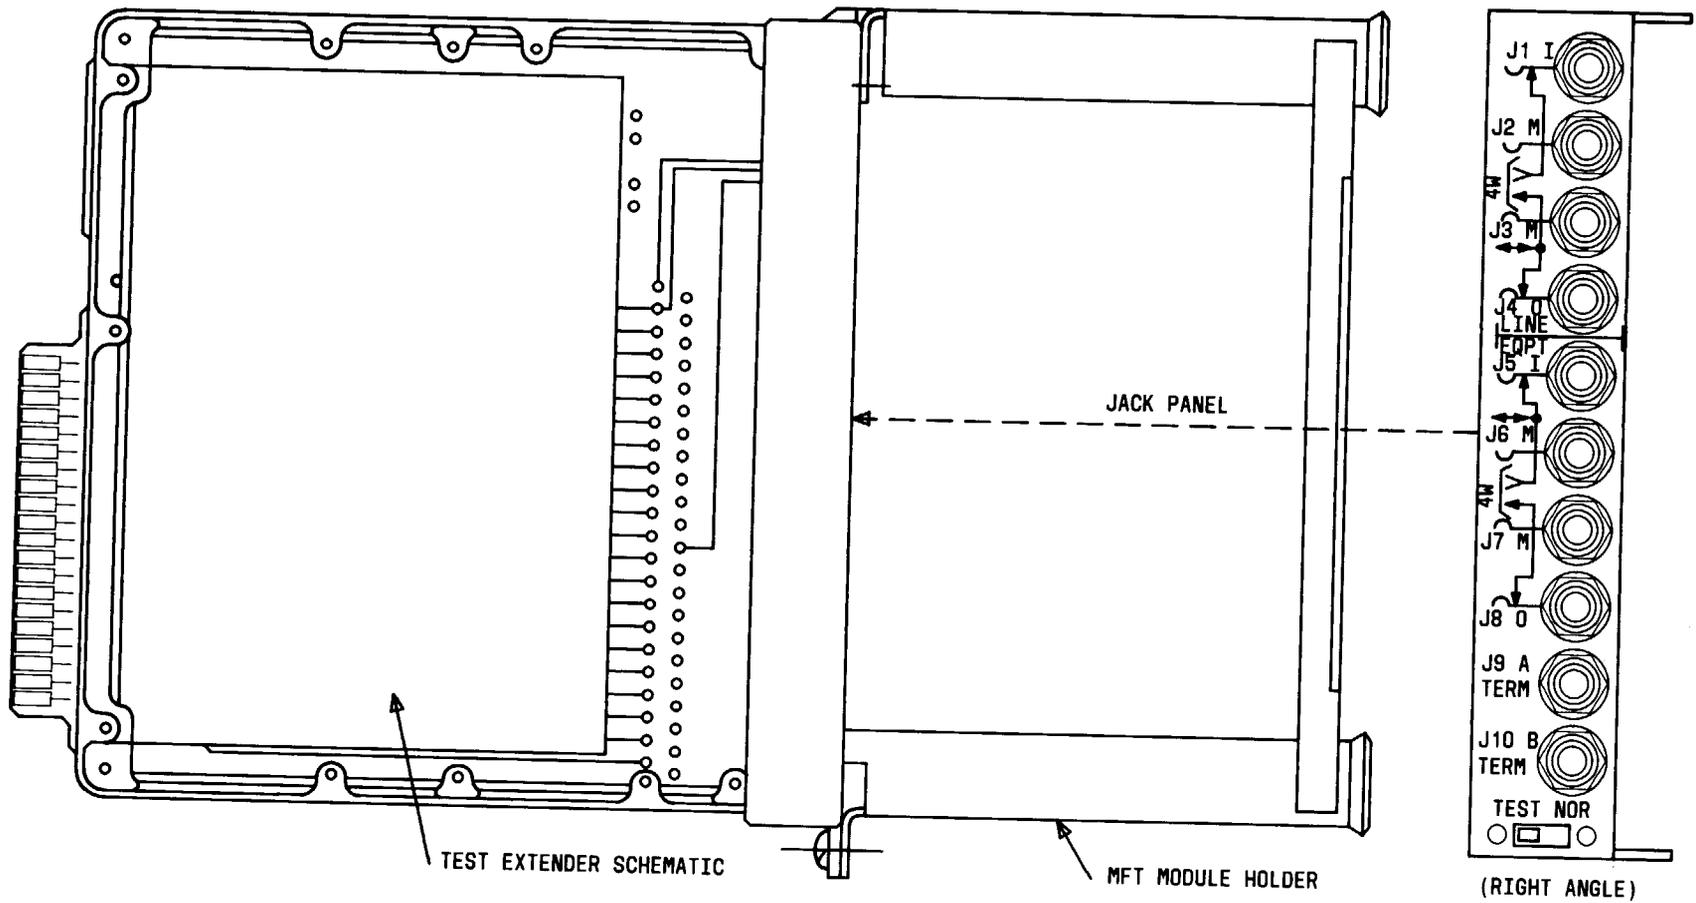

Fig. 4—J99400TA Test Extender
4.01 A J99400TA Test Extender assembly (Fig. 4) facilitates the testing associated with all the MFT modules and may be ordered separately. This test extender provides for full extension of a powered MFT module outside the housing boundaries. The feature permits total access to adjustments on the MFT module under test as well as the adjustments on the test extender itself. A functional schematic decal of jack and switch connections is provided on the wiring side of the printed wiring board assembly. This functional schematic should simplify the using of the test extender. The test extender is intended for use with the J99400 Housing assemblies but can be used on any MFT shelf. Both front covers of the J99400A housing assembly should be removed when using this test extender.